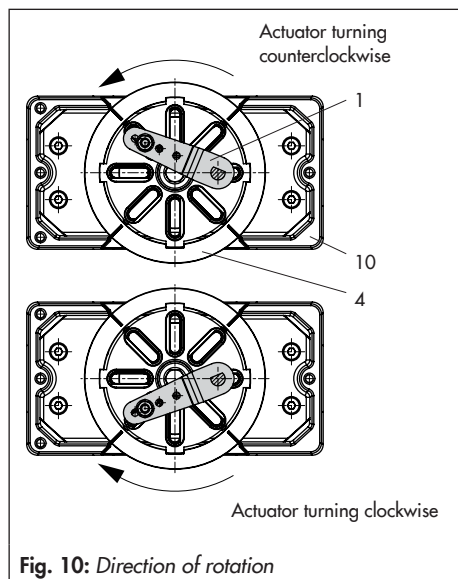

Fig. 10: Direction of rotation
4. Fasten coupling wheel (4) on the slotted actuator shaft or adapter (3) using screw (4.1) and disk spring (4.2).
5. Unscrew the standard follower pin (2) from the positioner's M lever (1). Attach the follower pin (\varnothing 5 mm) included in the mounting kit to pin position 90° .
6. Mount connecting plate (6) for required G $\frac{1}{4}$ connecting thread or pressure gauge bracket (7) with pressure gauges on the positioner. Make sure that the two seals (6.1) are seated properly. Double-acting springless rotary actuators require the use of a reversing amplifier on the connection side of the positioner housing (see Chapter 5.9).
8. Place positioner on housing (10) and screw it tight. Taking the actuator's direction of rotation into account, adjust lever (1) so that it engages in the correct slot with its follower pin (Fig. 10).